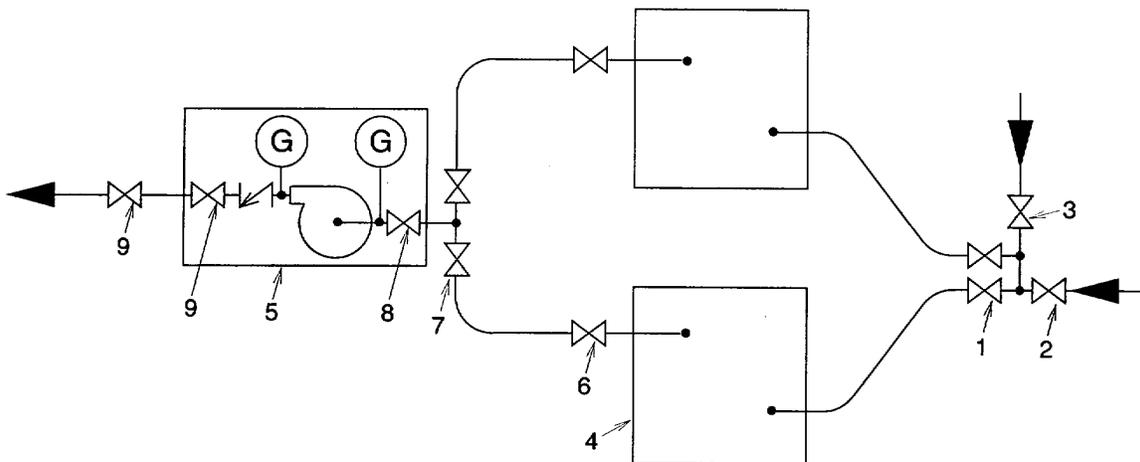

Figure 2-22. Typical 5,000 BBL Fabric Tank Operation
- (1) Prepare standard operating procedures in accordance with appropriate regulations and technical manuals.
- (2) Application of Fire Extinguishers.
(3) Fire Fighting Clothing. The fire fighting clothing should be kept under cover, out of the sun and dry. The location must be known to all operating personnel.
- m. 5,000 Bbl Fabric Collapsible Tank Operation. (See figure 2-22.)